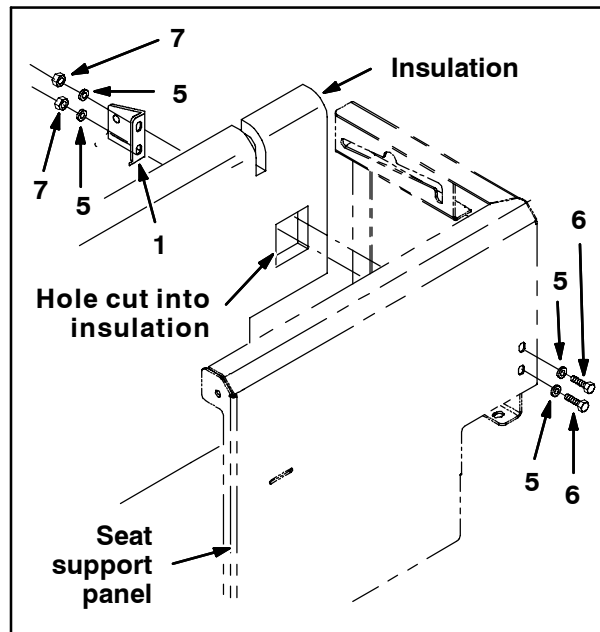

FIG. 1
(Refer to FIG. 1)**
2. Hold a mounting bracket (1) against the insulation behind the seat support panel (where the two holes are drilled through the insulation) and cut enough insulation away to make it possible to mount the bracket to the seat support panel. Refer to Fig. 1.
3. Use two hex screws (6), four flat washers (5), and two hex nuts (7) to install the mounting bracket (1) onto the seat support panel. Refer to Fig. 1.